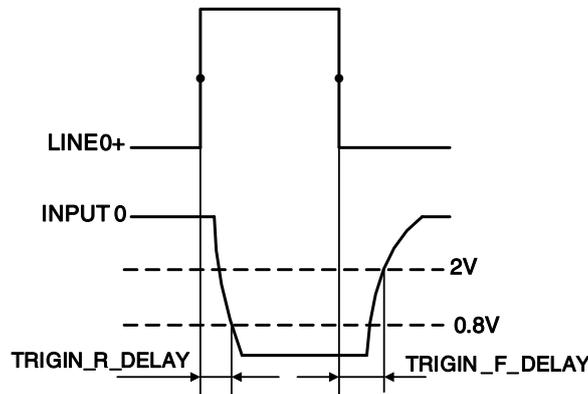

Figure 7-4 Parameter of opto-isolated input circuit
- Total delay time of rising edge: $<50\mu\text{s}$ ($0^{\circ}\text{C}\sim 45^{\circ}\text{C}$), parameter description as shown in Figure 7-4
- Total delay time of falling edge: $<50\mu\text{s}$ ($0^{\circ}\text{C}\sim 45^{\circ}\text{C}$), parameter description as shown in Figure 7-4
- Input rising time delay: $<2\mu\text{s}$ ($0^\circ\text{C}\sim 45^\circ\text{C}$), parameter description as shown in Figure 7-4
- Input falling time delay: $<2\mu\text{s}$ ($0^\circ\text{C}\sim 45^\circ\text{C}$), parameter description as shown in Figure 7-4